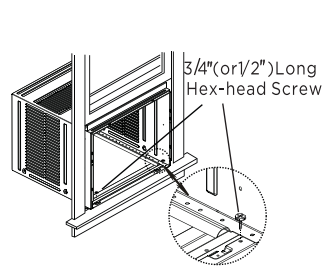

Fig.13
4. For wooden window: Fasten cabinet to window inner sill with two screws into holes (Fig.13) (You may wish to pre-drill pilot holes).